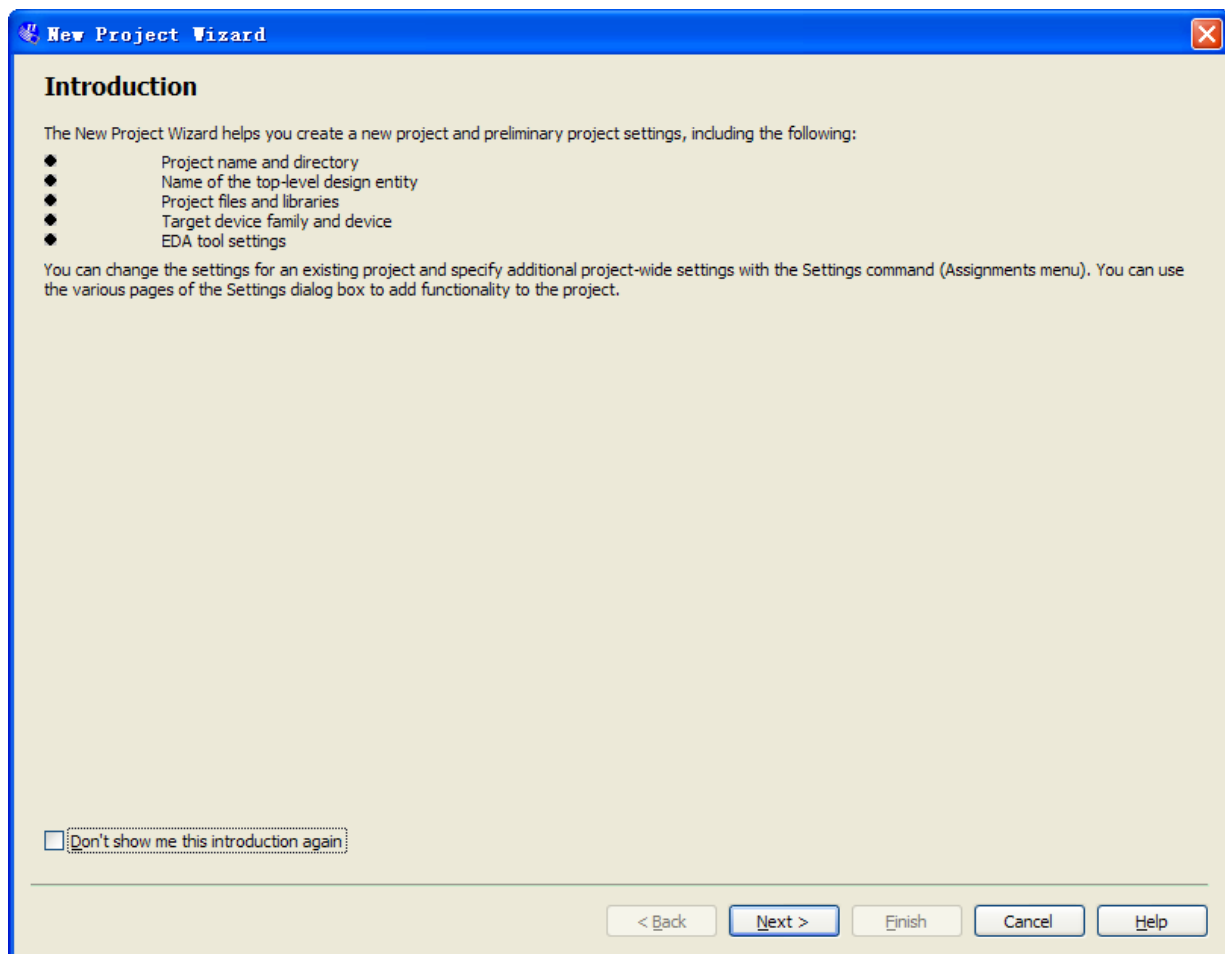

Figure 2-1 New Project Wizard introduction
1. In the Quartus II software, select File > New Project Wizard. The Introduction page opens. See Figure 2-1